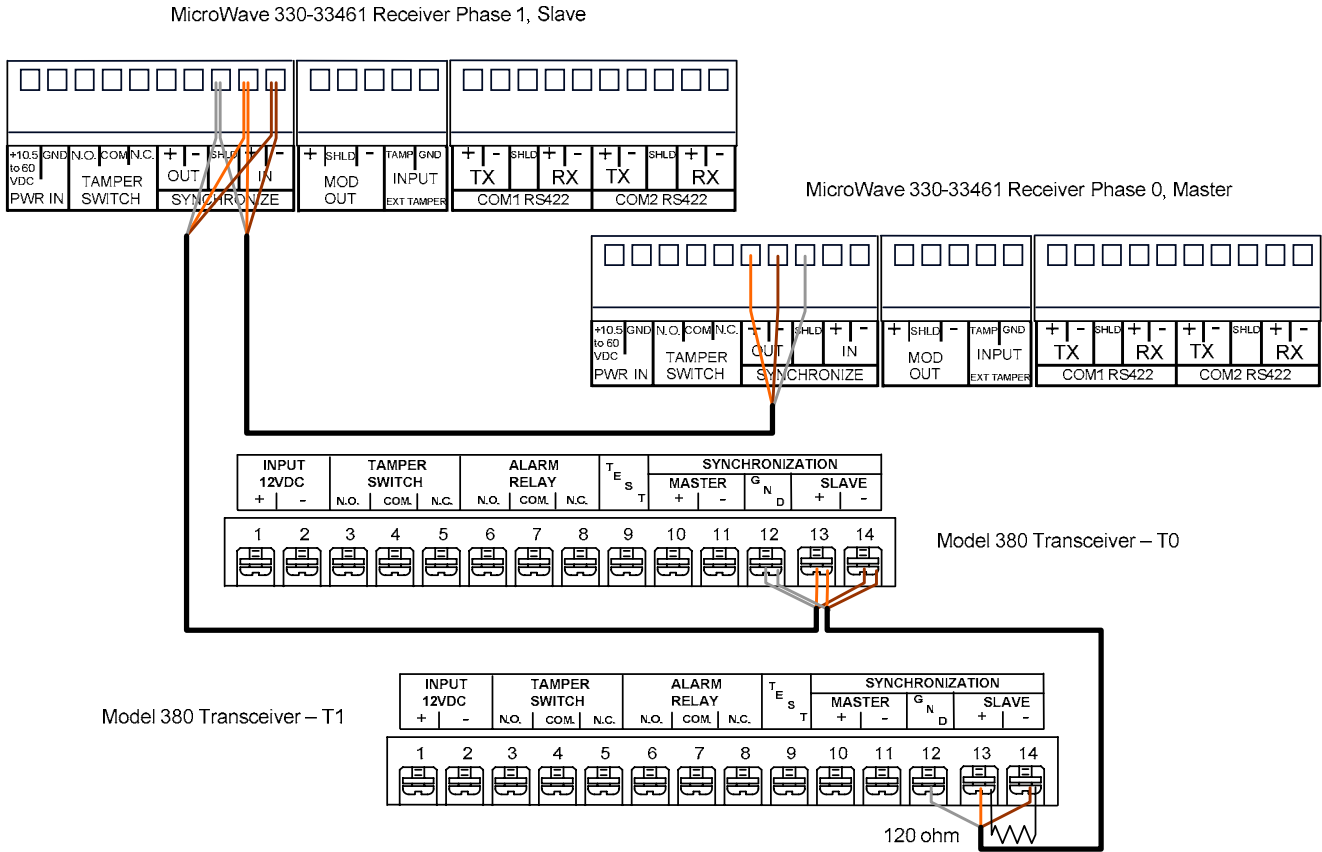

Figure 26 – Synchronization Wiring
The synchronization wiring is shown in Figure 26 for two (2) MicroWave 330-33461 links and two (2) Model 380 transceivers. *The Master, Slave, Phase 0 or Phase 1 setting is configured in the UIST II software program.* The synchronization line must use a 22 or 24 gauge twisted, stranded, shielded pair wire. The last unit in the synchronization chain must be terminated with a 120 ohm resistor. For setting the Model 380 or Model 358 in a synchronized mode, please refer to their respective technical manuals. *Note: all other wiring has been omitted for clarity.*